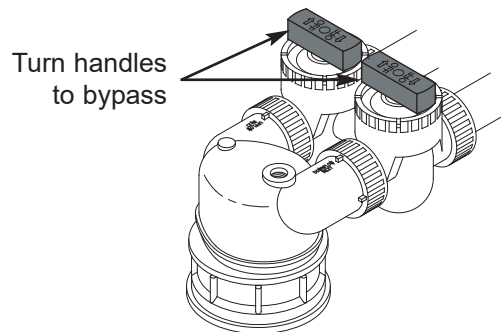

FIG. 8
2. Bypass the system by turning both bypass handles perpendicular to the flow of water (See Fig. 8).